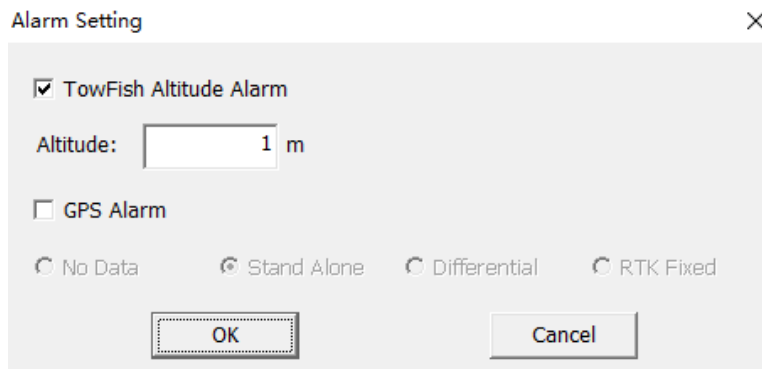

Figure 6.9 Alarm Setting
(5) The "Alarm Setting" button is mainly used to set up to alarm the project status especially when the data quality (GNSS) during the operation is not good. Just as shown in Figure 6.9 for the alarm setting dialog window. (SS900F's altitude alarm is not available)